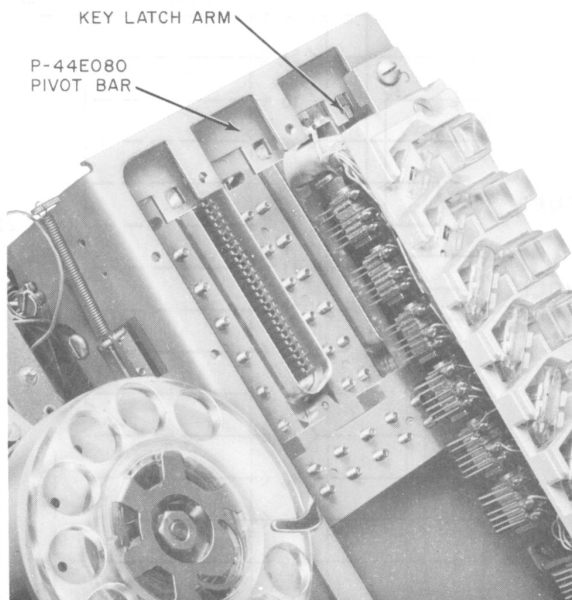

Fig. 11—Pivot Bar, Top View (Current Production)
3.07 When an operated pickup key does not remain depressed or release any previously operated key on current sets (Fig. 11):